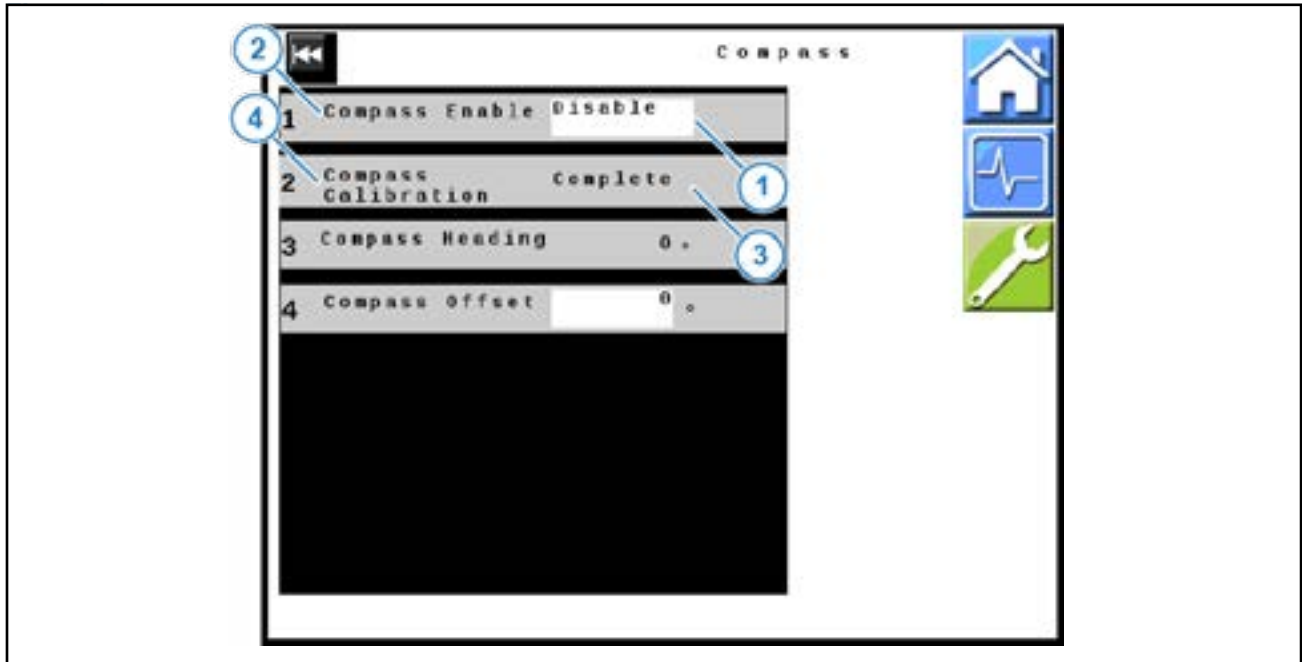

Figure 27: Compass Screen
2. Select the box (Figure 27, Item 1) next to Compass Enable (Figure 27, Item 2).
4. Select the box (Figure 27, Item 3) next to Compass Calibration (Figure 27, Item 4).